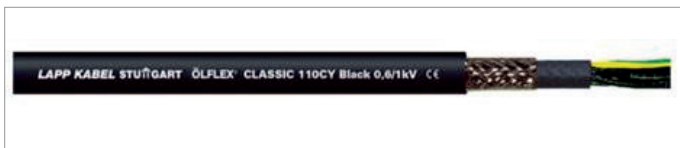

Fig. 57.
- Remove Z-profiles. Location of Z-profiles are shown on the label attached to the door. (Fig. 57)